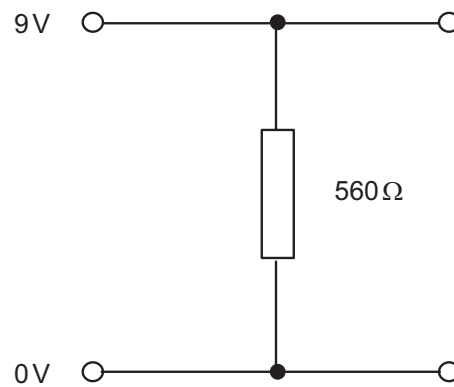

Fig. 3
- (v) Use Ohm's law to calculate the current which flows through the resistor shown in **Fig. 3**.
- (vi) Name the instrument which could be used to measure the current through the resistor in **Fig. 3**.